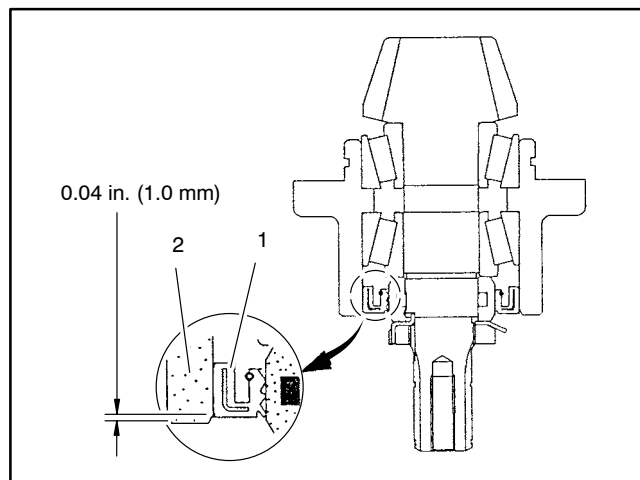

Figure 17
3. Coat a new oil seal with grease and install as shown (Fig. 17).